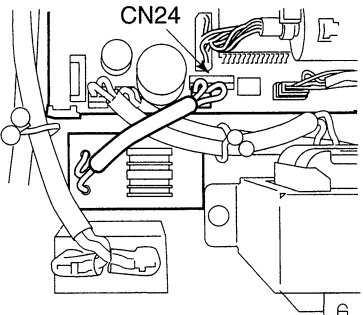

Fig.3
3. Insert connector of mini P.C. board ④ into CN24 of the main P.C. board. (Fig.3)